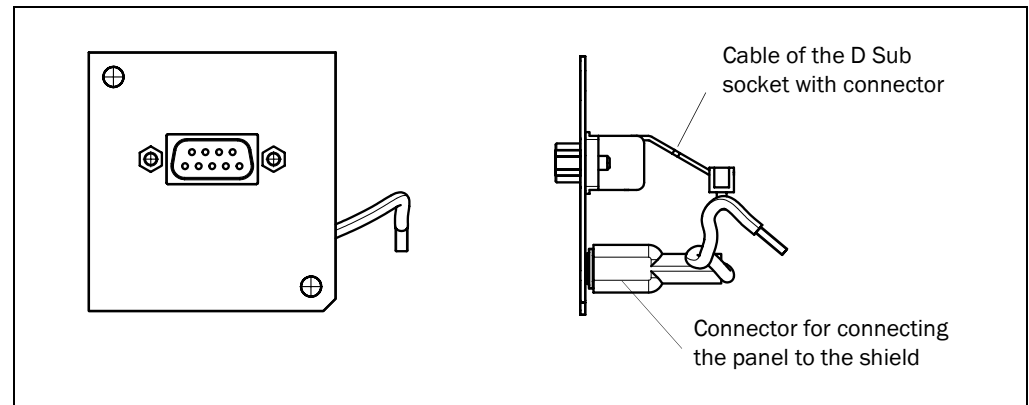

Fig. 2-2: Front panel of the CMF 400-1001: 9-pin D Sub socket (IP 20) for Profibus DP
1. Connect the shield connector to the new front panel (*Fig. 2-2*).